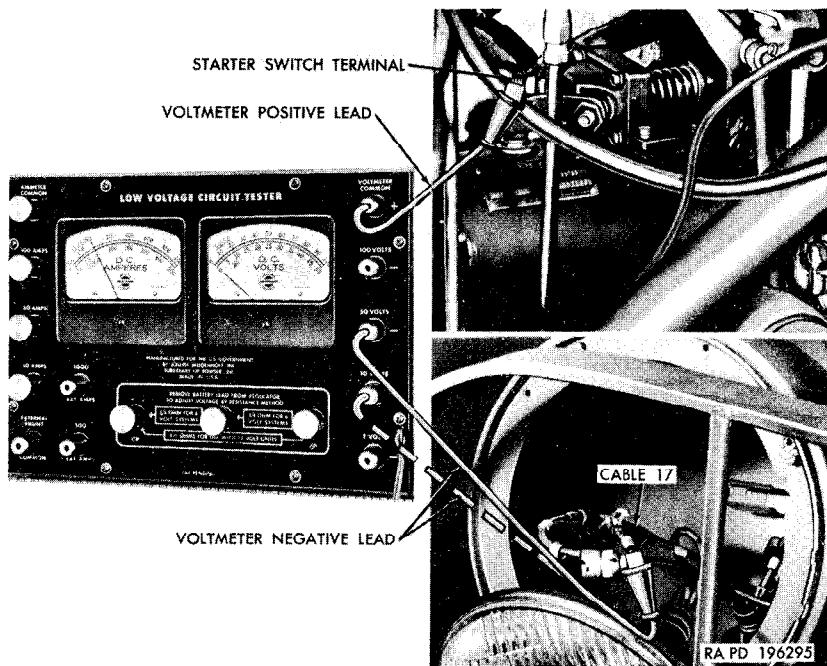

Figure 62. Checking headlight circuit resistance.
e. Service Headlights Dim. High resistance in headlight cables or ground circuit. Check cable and ground resistance ((1) and (2) below).
- (1) *Check headlight cables resistance* (fig. 62).
- (b) Disengage the cable connector for cable (17) from the connector clip and separate the connector shells. Move one shell, the grommet bushing, and rubber grommet along the lamp unit cable to expose the cable terminal. Do not pull the terminal from the connector sleeve.